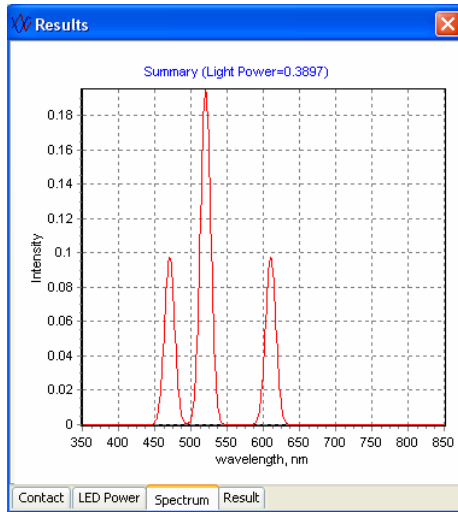

Fig. 28
- **Spectrum.** The total lamp emission spectrum (see Fig.28).